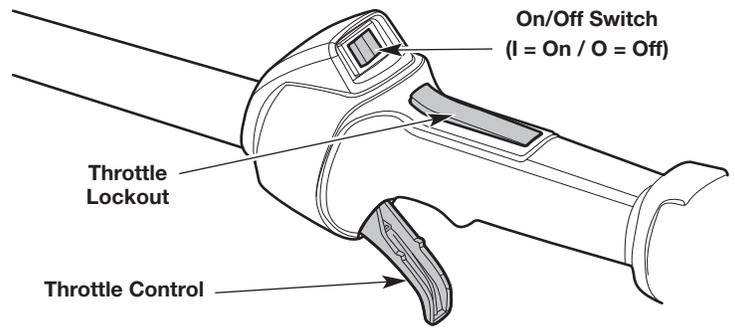

Fig. 11
NOTE: There is no need to turn the unit on. The On/Off switch is in the **On (I)** position at all times (Fig. 11).
5. Press and hold the throttle lockout (Fig. 11). Squeeze and hold the throttle control (Fig. 11).
2. Press and hold the On/Off switch in the **Off (O)** position until the engine comes to a complete stop (Fig. 11).
- NOTE:** There is no need to turn the unit on. The On/Off switch is in the **On (I)** position at all times (Fig. 11).
6. Press and hold the throttle lockout (Fig. 11). Squeeze and hold the throttle control (Fig. 11).